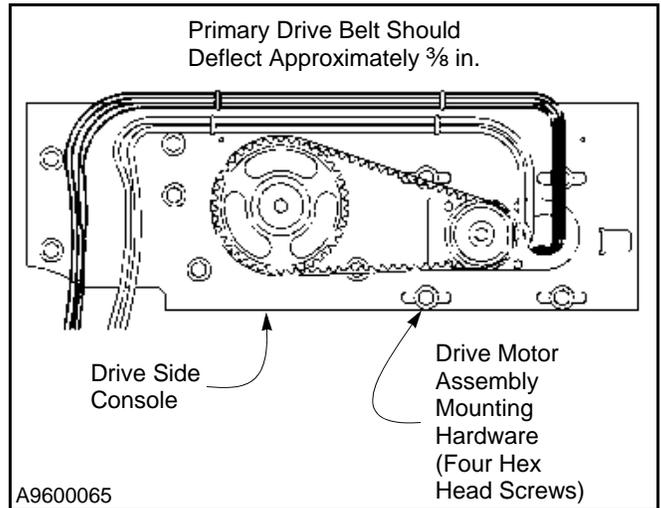

Figure 45
3. Loosen the four hex head screws securing the drive motor assembly to the drive side console. (See Figure 45.)
tensioned. (See Figure 45.)